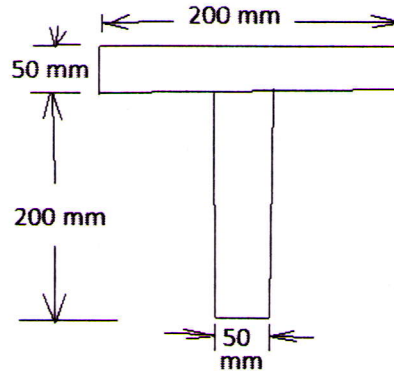

Fig. 2
- 7 Derive from fundamentals pure bending equation $\frac{M}{I} = \frac{f}{y} = \frac{E}{R}$. Also state the important assumptions. (10)
- 8 The T shaped cross section of a beam shown in Fig. 2 is subjected to vertical shear force of 100 kN. Calculate the shear stress at the neutral axis and at the junction of the web and the flange. Moment of inertia about the horizontal neutral axis is $1.134 \times 10^8 \text{ mm}^4$. (10)